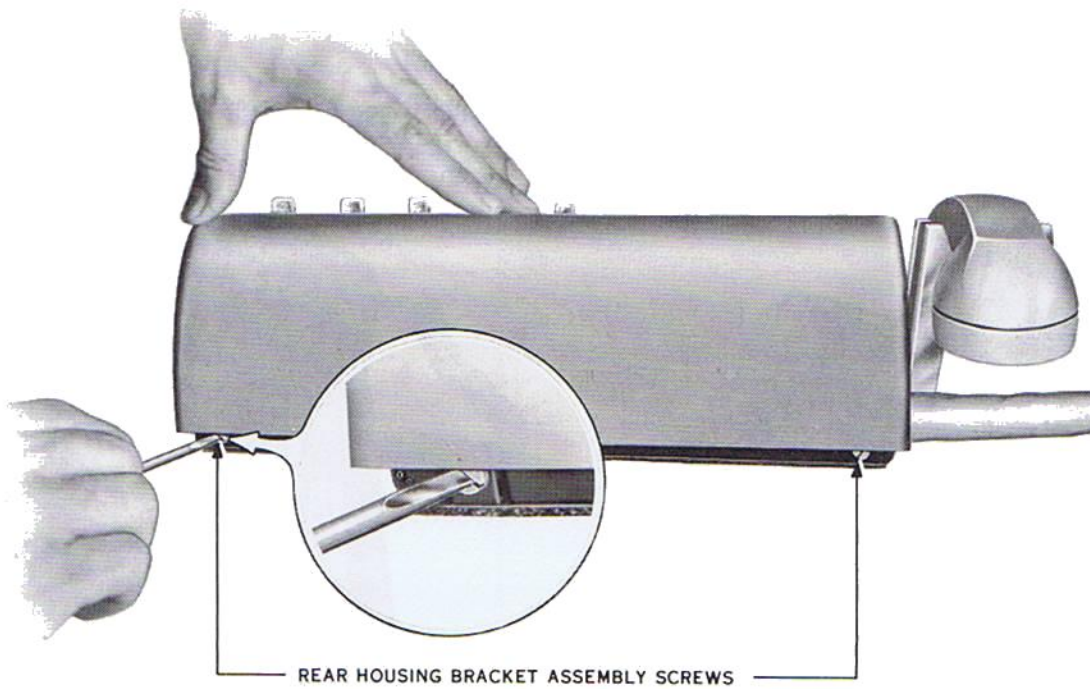

Fig. 15 - Method of Removing Housing
8.03 To remove housing (Fig. 15):